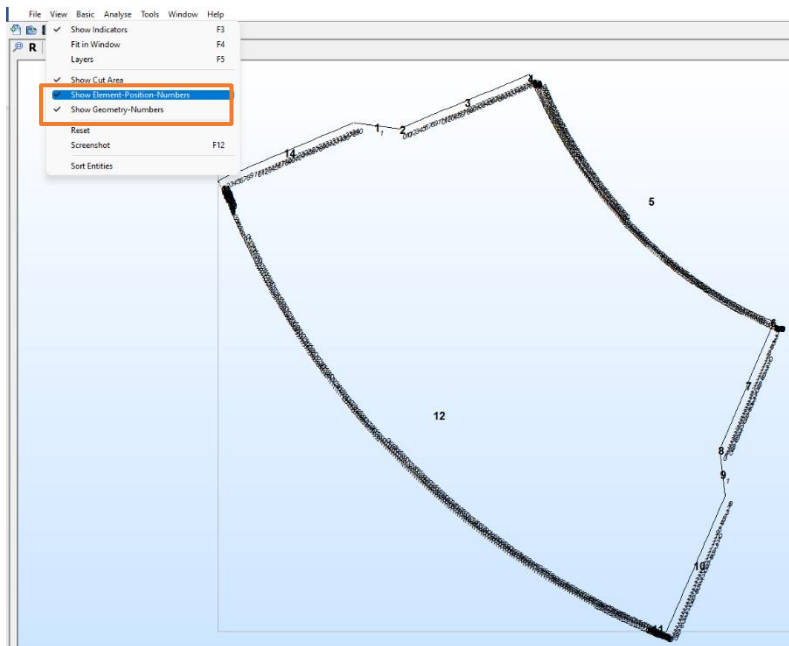

Figure 22
- Press button **View** in the Main Menu. Activate **[Show Element-Position-Numbers]** and **[Show Geometry-Numbers]** (Figure 22).